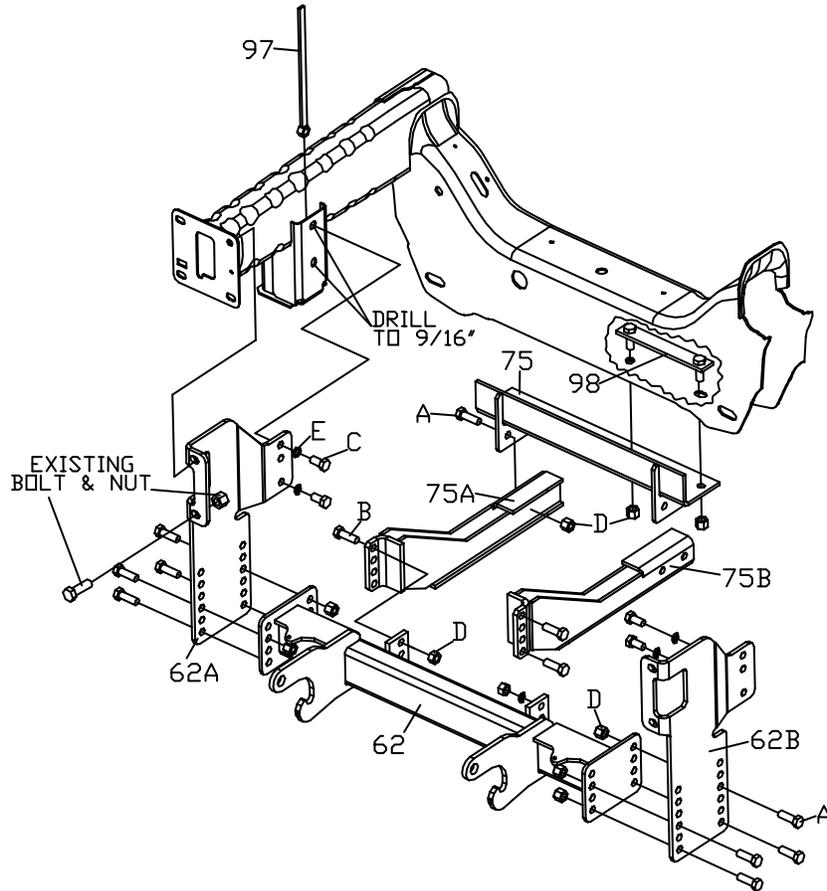

Figure 2
1. There are three nuts holding the bumper to the frame on each side. Remove the inside nuts on each frame horn (see Figure 2). On the driver's side frame horn, bend the tab between the two inside bumper mounting holes, flat with the frame horn. If the vehicle is equipped with tow hooks - remove tow hooks, tow hook mounting brackets, and horizontal support rod.
3. Install Push Beam Support Plates (62A & 62B) with existing bolts and nuts used for mounting the bumper (bottom holes on inside of frame horns). Insert two ½"-13 x 1-1/2" GR5 Hex Head Bolts (A) into empty top mounting holes from inside the bumper, through the frame horns, and Push Beam Support Plates (62A & 62B). Attach with two ½"-13 Nylon Lock Nuts (D), leaving them finger tight.